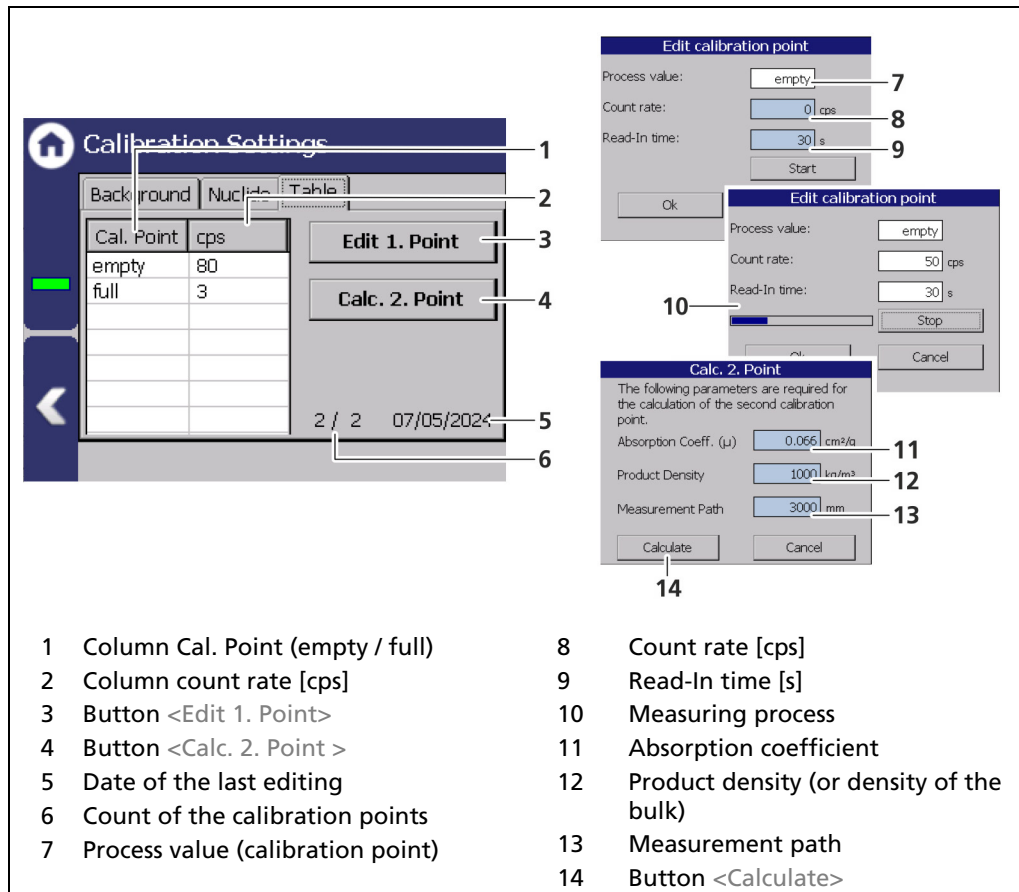

Fig. 68 Calibration settings table (1 Point Exp calibration type)
1. Select in the column "Cal. Point" the first line (empty) (Fig. 68, item 1).
2. Click on the <Edit> button (Fig. 68, item 3).
- ▶ The "Edit" window (Fig. 68, items 6-8) opens.
3. Click on the "Read-in time" input field (Fig. 68, item 8).
- ▶ The measuring process (Fig. 68, item 9) begins and the count rate is transferred to the count rate field (Fig. 68, item 7) after the read-in time has elapsed.
7. Select in the column "Cal. Point" the second line (full) (Fig. 68, item 1).